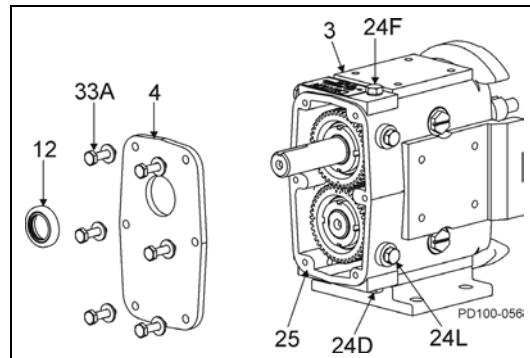
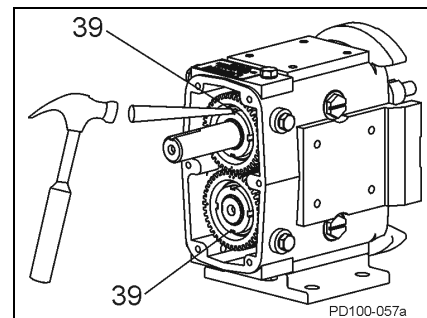

Figure 37 - Remove Gear Case Cover
Figure 38 - Straighten Lock Tab on Lock Washers
- Remove oil drain plug (Figure 37, item 24D); drain oil.
- Remove cap screws from gear case (item 33A).
- Pull cover (item 4) off shaft extension. If cover sticks, use soft hammer to loosen.
- Remove Gore-Tex® sealing tape (item 25) from gear case and cover.
- Remove oil seal (item 12) from cover using arbor press. Discard used oil seal.
- Straighten lock tab on lock washers (Figure 38, item 39).